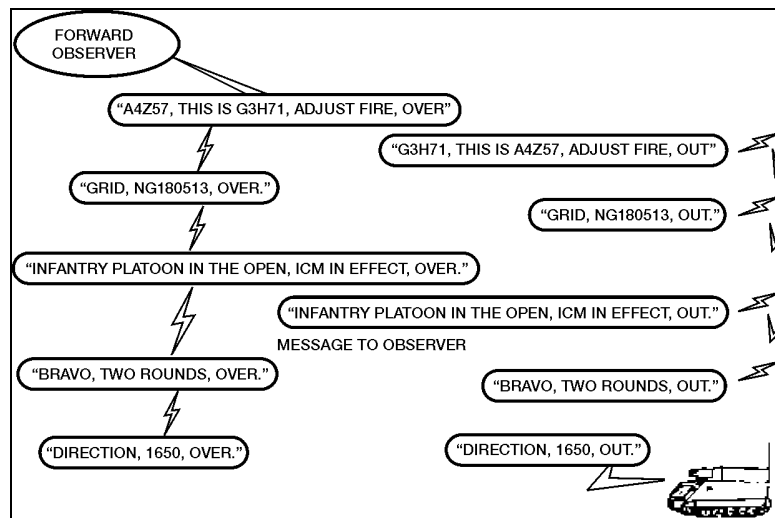

Figure 061-283-6003-1. Initial Fire Request
- (1) Observer identification (your call sign).
- (2) Warning order (adjust fire).
- (3) Location of target.
- (4) Description of the target (for example "INFANTRY PLATOON IN THE OPEN").
- (5) Method of engagement (may be omitted if area fire is desired).
- (6) Method of fire control.
**Note.** The request for a fire mission would be similar to figure 061-283-6003-1.